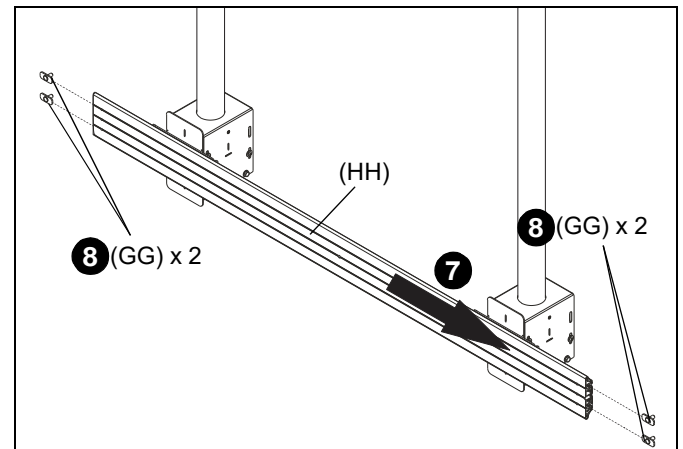

Figure 7
7. Slide 2 x 1 rail (HH) onto second assembly (H) attached to column. (See Figure 7)
8. Slide two wind shield connectors (GG) into back grooves on 2 x 1 rail (HH) on each side. (See Figure 7)